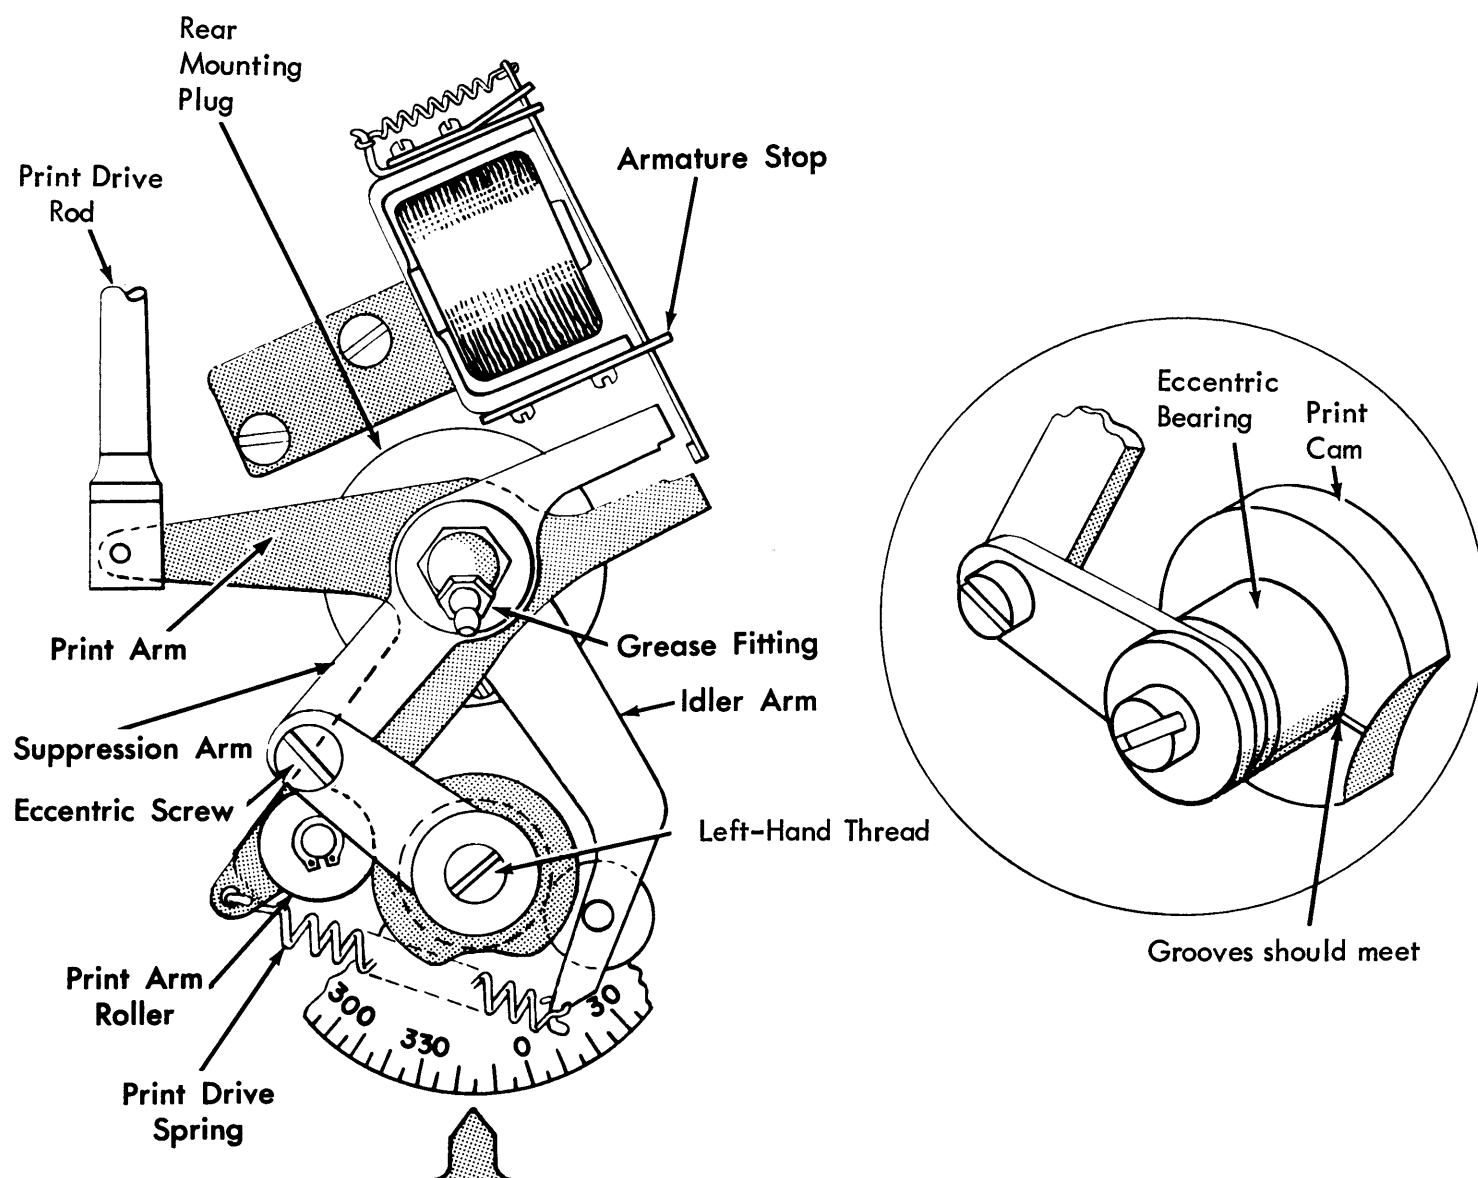

Figure 4-22. Print Drive Unit Cam Timing
- Unhook print drive spring (Figure 4-22) and trip punch clutch armature to prevent damage to it. Hold index and remove screw with left-hand threads from end of punch shaft. Unscrew grease fitting from mounting plug.
- Loosen knurled thumb screw or remove slotted clip on vertical drive rod to relieve tension and remove vertical drive rod guide plate. Disengage the print rod from the print arm (Figure 4-22) by applying slight pressure on drive rod at lower end.
Before reinstalling drive unit, manually push punch extensions in as far as possible. Reverse procedure to install punch unit. Align groove in eccentric bearing to mark on print cam (Figure 4-22). Check printing.